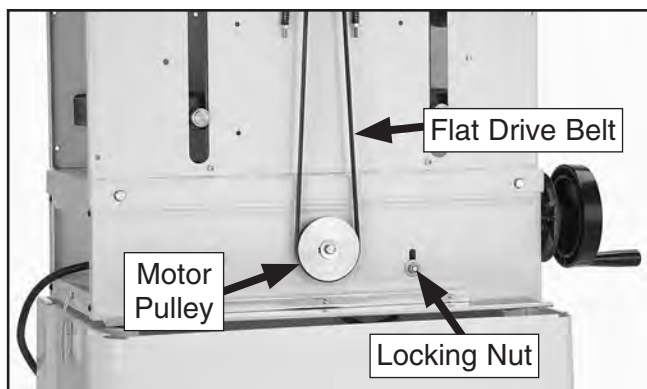

Figure 45. Location of locking nut on rear of machine.
5. Loosen the locking nuts on both sides of the machine, as shown in **Figures 45 & 46**.